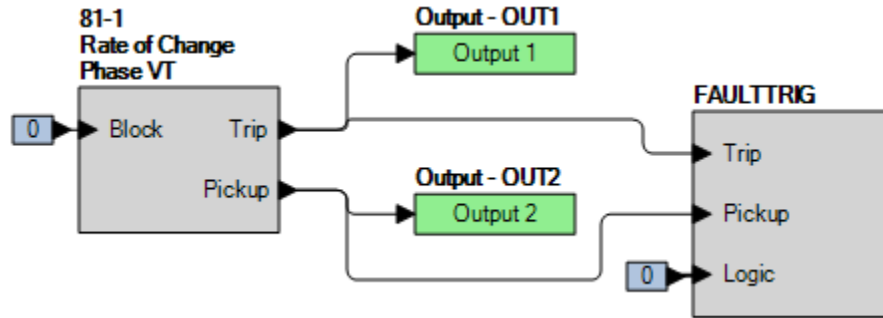

Figure 61-4. BESTlogicPlus Settings (ROC Inhibit)
Step 2: Use BESTCOMSPPlus to configure the BESTlogicPlus programmable logic shown in Figure 61-4.